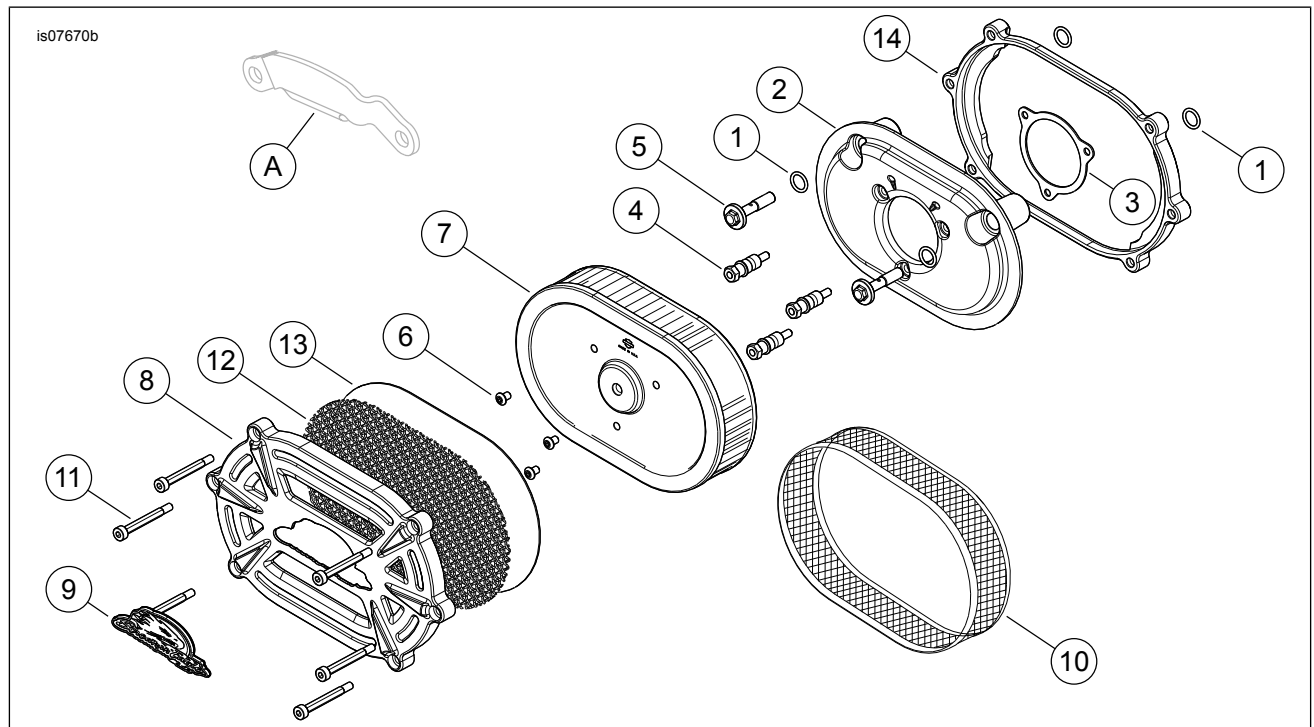

Figure 4. Service Parts, Screamin' Eagle Extreme Billet Ventilator Performance Air Cleaner Kit
See Figure 4 and Table 1.
1. See Figure 4. Install two O-rings (1) from the kit in the grooves around the breather bolt holes on the induction module side of the backplate assembly (2). Install the remaining two O-rings in the grooves in the underside of the heads of the breather bolts (5).
2. Remove the liner from the adhesive backing of the gasket (3). Carefully position the adhesive side of the gasket to the backplate, aligning to the equally spaced screw holes, and press the gasket firmly into place.
3. Insert new breather bolts (5) through the backplate.
6. Thread the air cleaner mounting studs (4) all the way through the backplate (2) until the screw threads are captured in the induction module. Do not tighten completely at this time.
1. See Figure 4. Secure the air filter element (8) to the air cleaner mounting studs (4) using three bright-finish TORX® screws (6) from the kit. Tighten the screws to 6.2–6.8 N·m (55–60 **in-lbs**).
2. Remove the liner from the adhesive backing of the air cleaner emblem (9). Carefully position the adhesive side of the emblem to the front cover (8) and press the emblem firmly into place.
3. Assemble wire mesh (12) and filler plate (13) to front cover.
4. Apply Loctite 243 - Blue to all cover screws (11) and mating tapped holes in back cover (14).